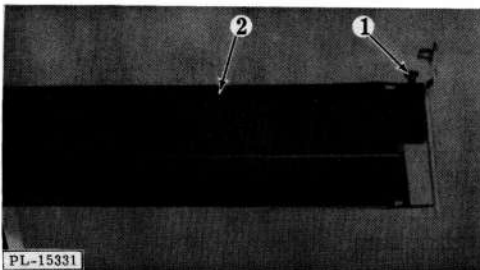

Fig. 41
Upper Rack Track (2, Fig. 41)
1. Pull track forward to bumper stop. Lift tab from detent hole and remove stop retaining stud (1, Fig. 41).